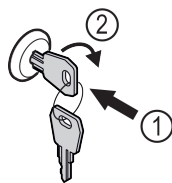

Fig. 115
- ▶ Insert key Fig. 115 (1).
- ▶ Turn key clockwise by 90° Fig. 115 (2).